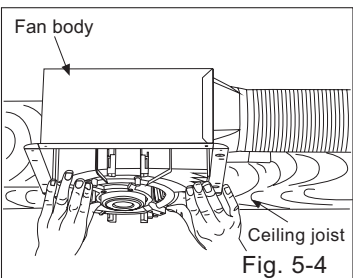

Fig. 5-4
7. Insert the blower into the fan body.(Fig.5-4)